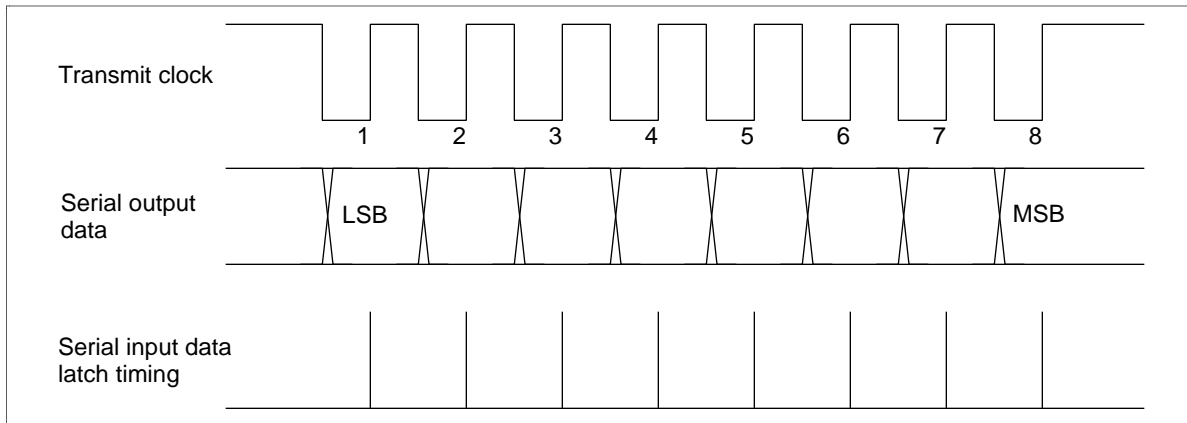

Figure 31 Timing of Serial Interface Output
**Serial Data Register (SRL: \$006, SRU: \$007):** Eight-bit read/write register separated into upper and lower digits located at sequential addresses. Data in this register is output from the SO pin, LSB first, in synchronism with the falling edge of the transmit clock; and data is input, LSB first, through the SI pin at the rising edge of the transmit clock. Input/output timing is shown in figure 31.